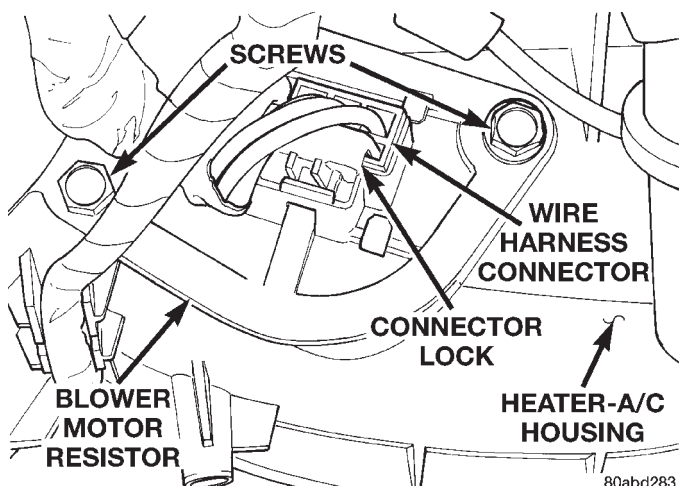

Fig. 44 Blower Motor Resistor Remove/Install
- (1) Disconnect and isolate the battery negative cable.
- (2) Remove the kick cover from the heater-A/C housing. See Kick Cover in this group for the procedures.
- (3) Pull out the lock on the blower motor resistor wire harness connector to unlock the connector latch (Fig. 44).
- (4) Depress the latch on the blower motor resistor wire harness connector and unplug the connector from the resistor.
- (5) Remove the two screws that secure the resistor to the heater-A/C housing.
- (6) Remove the resistor from the heater-A/C housing.
- (7) Reverse the removal procedures to install. Tighten the mounting screws to 2.2 N·m (20 in. lbs.).